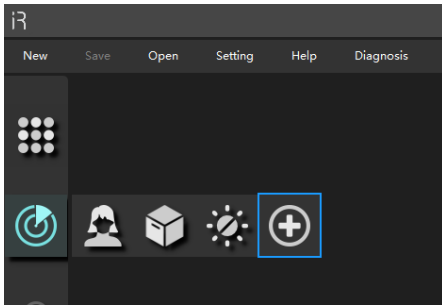

Figure 1
1. Open the setting menu and click the plus sign, or click the plus sign directly (see Figure 1);